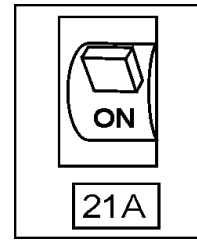

Figure 22. Main Circuit Breakers (Off)
1. Place the main circuit breaker (Figure 22) in the **OFF** position.